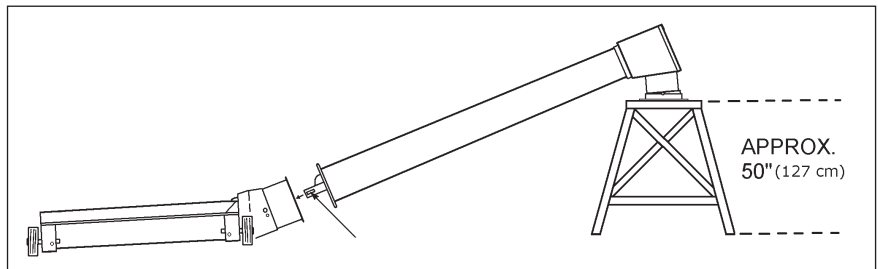

Figure No. 1
4. Raise and support hopper tube at about 50" under spout. Open service door on hopper, then bring tube and hopper together guiding flight shaft into u-joint. (See **Figure No. 1**)